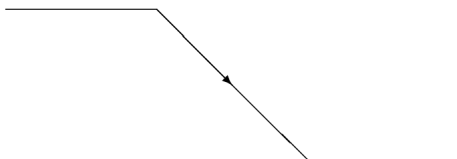

Figure 2 – This selection for Slope Menu on digital oscilloscope indicates a *falling edge trigger*.
- Select the slope menu and choose the icon shown in Fig. 2.